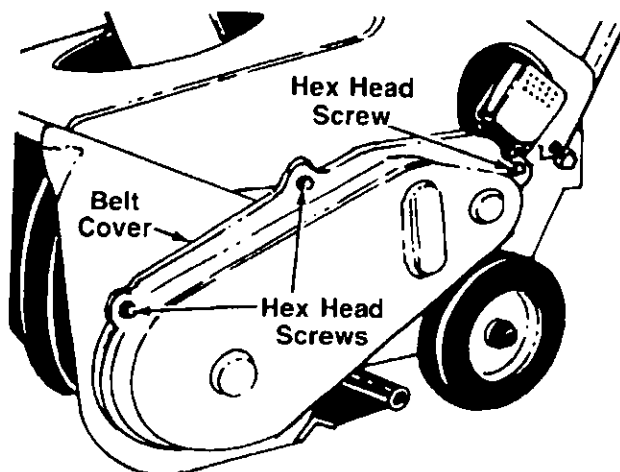

FIGURE 11.—Model 310183 Shown
2. Remove the belt cover by removing four screws with a 3/8" wrench. See figure 11.